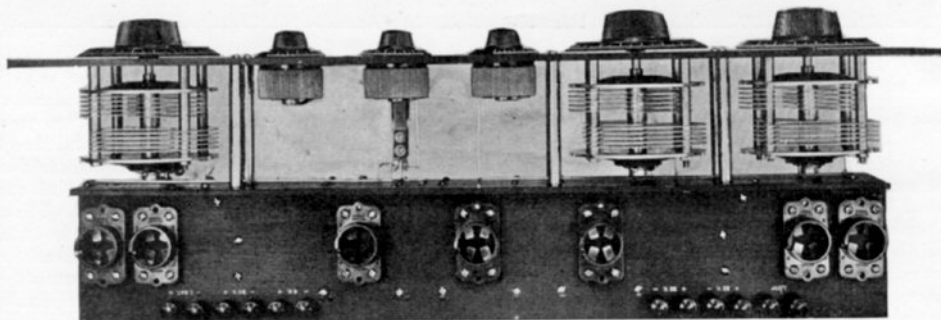

Fig. 5. Looking down upon the set you can see the new and very interesting arrangement for the instruments
1. Fasten the six panel support pillars to the sub panel with $\frac{1}{2}$ -in. 6-32 F. H. screws. These can be seen in Fig. 5.